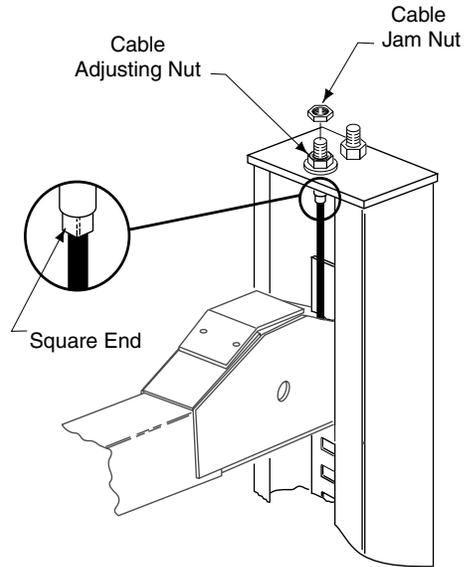

Fig. 27
- 1. Starting with the right front column: use a straight edge to mark the yoke height on the column, Fig. 27.
- 4. If entire 2" clearance cannot be attained by adjusting the locking latch bar, adjust the cable stud. Loosen cable jam nut, Fig. 27, and turn adjusting nut to raise the locking latch 2" above bottom of latch bar slot. Tighten cable jam nut. Lower lift and remove vehicle.